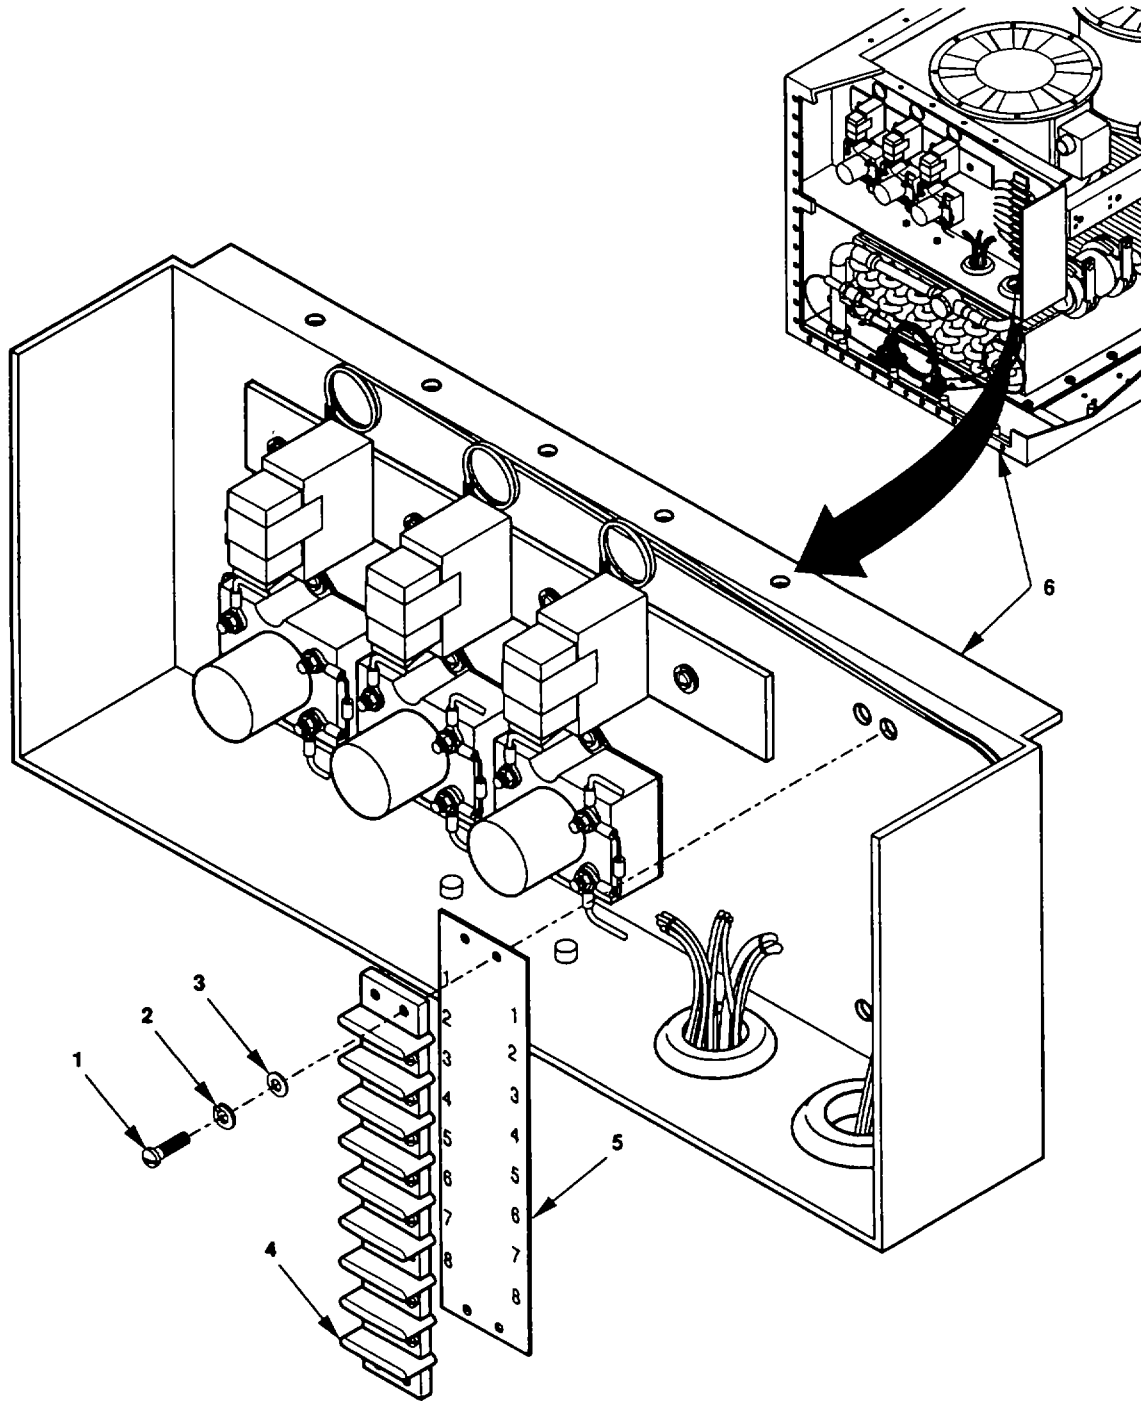

Figure 4-13. Terminal Board Maintenance.
- a. Remove.** Remove two screws (Figure 4-13, 1), lock washers (2), flat washers (3), terminal board (4) and terminal board marker strip (5). Discard lock washers (2).
- (1) Inspect terminal board (4) for cracks, broken or missing contacts, corroded or dirty contacts on the terminal board (4).
- (2) Inspect terminal board marker strip (5) for missing markings or damage.
- (3) Inspect all mounting hardware for damage.
- (4) Replace all defective components.